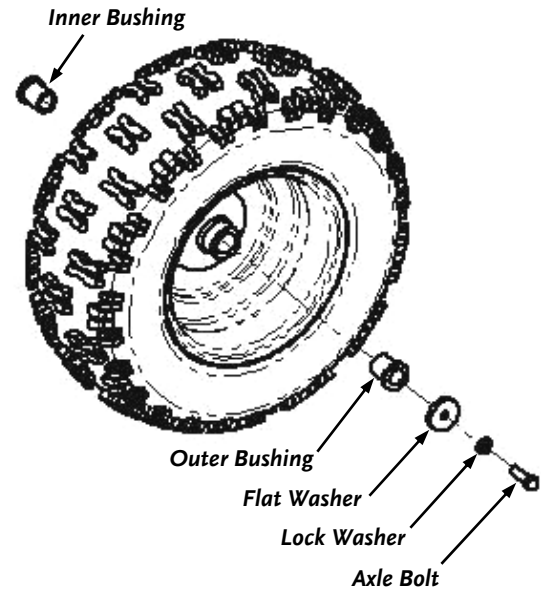

Figure 35
1. With the weight of the machine on the wheel, loosen (counterclockwise) the Axle Bolt (**Figure 35**) with a 9/16" Wrench or Socket.